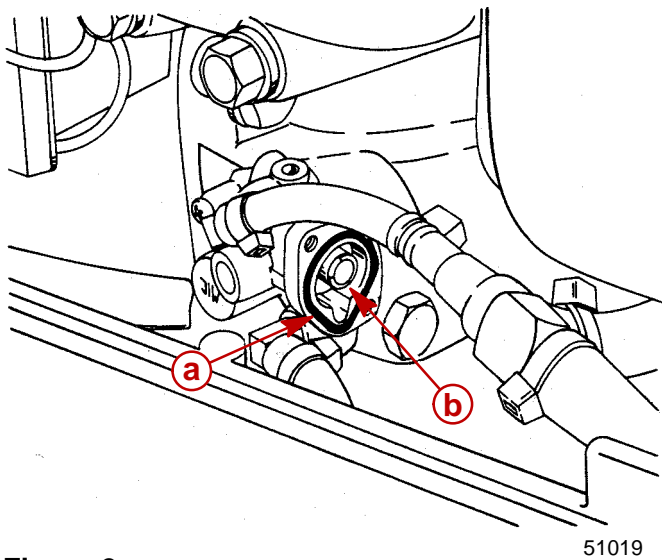

Figure 2.
- a - Screw (2)
- Remove cam plate from oil pump, using a twisting motion to break the O-ring seal. Make sure O-ring and plunger located behind cam plate (Figure 2), remain in position.